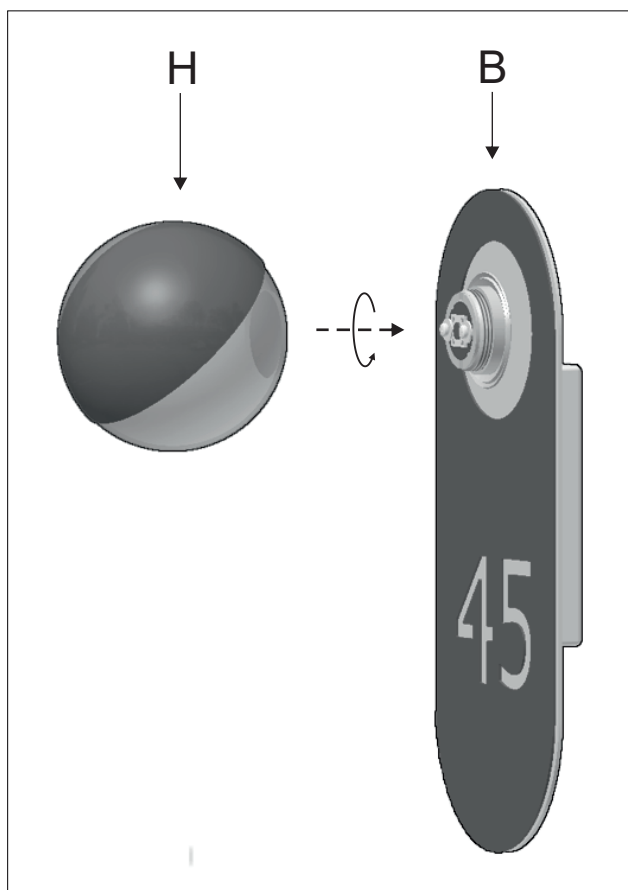

Figure 6
6 - Screw the glass shade (H) to the mounting bracket (B). Figure 6.